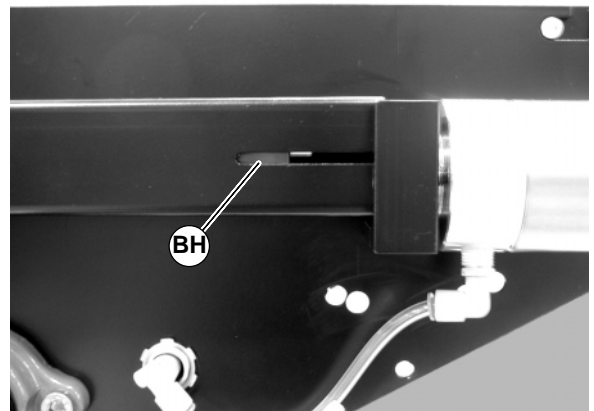

Figure 35
- If proper belt tension cannot be achieved before the out of tension indicator (BH of Figure 35) begins to turn red, the belt must be replaced.